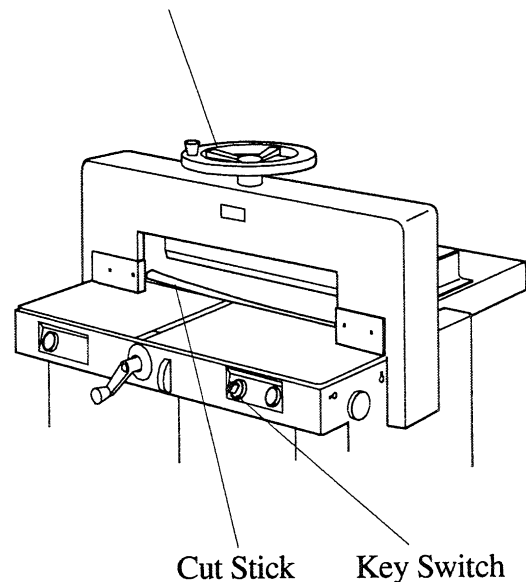

Fig. 3-1
- Turn off power, remove key (Fig. 3-1) and unplug power cord.
- Pull up left hand end of cut stick. (Fig. 3-1)
- Turn paper clamp hand wheel (Fig. 3-1) clockwise until it contacts cut stick.